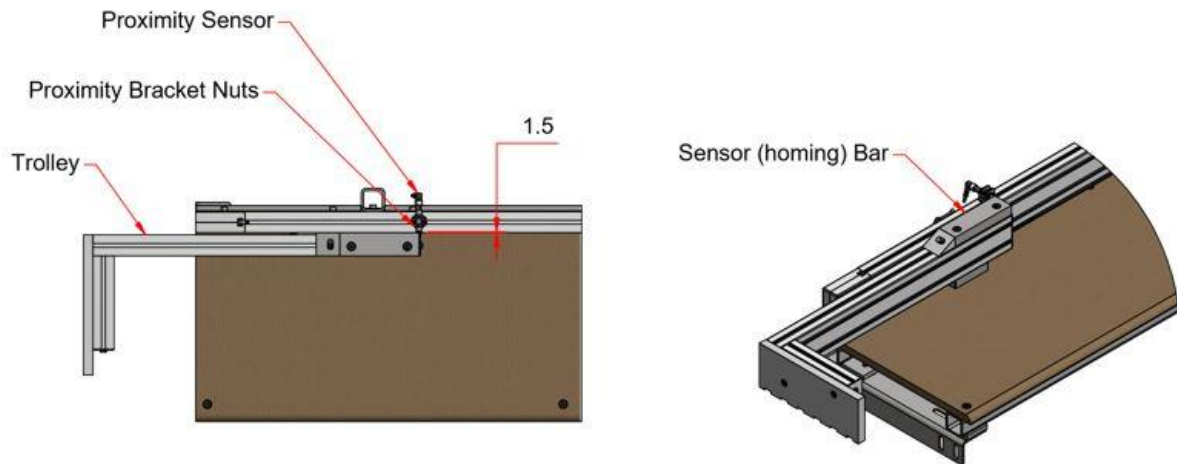

Figure 18, Rapid Stop proximity sensor configuration
- Position the proximity sensor to the rear of the sensor bar as shown in Figure 18.